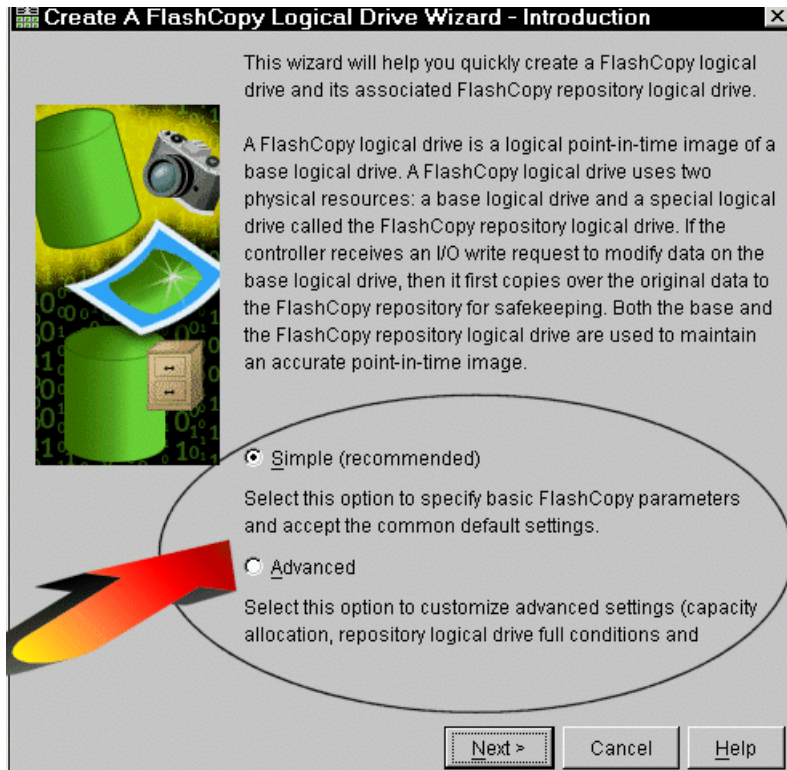

Figure 5-10 Wizard Introduction window
- b. The Introduction window (Figure 5-10) defines what a FlashCopy logical drive is and the physical components associated with a FlashCopy logical drive. It enables you to select either the Simple or Advanced path through the Create FlashCopy Logical Drive Wizard: